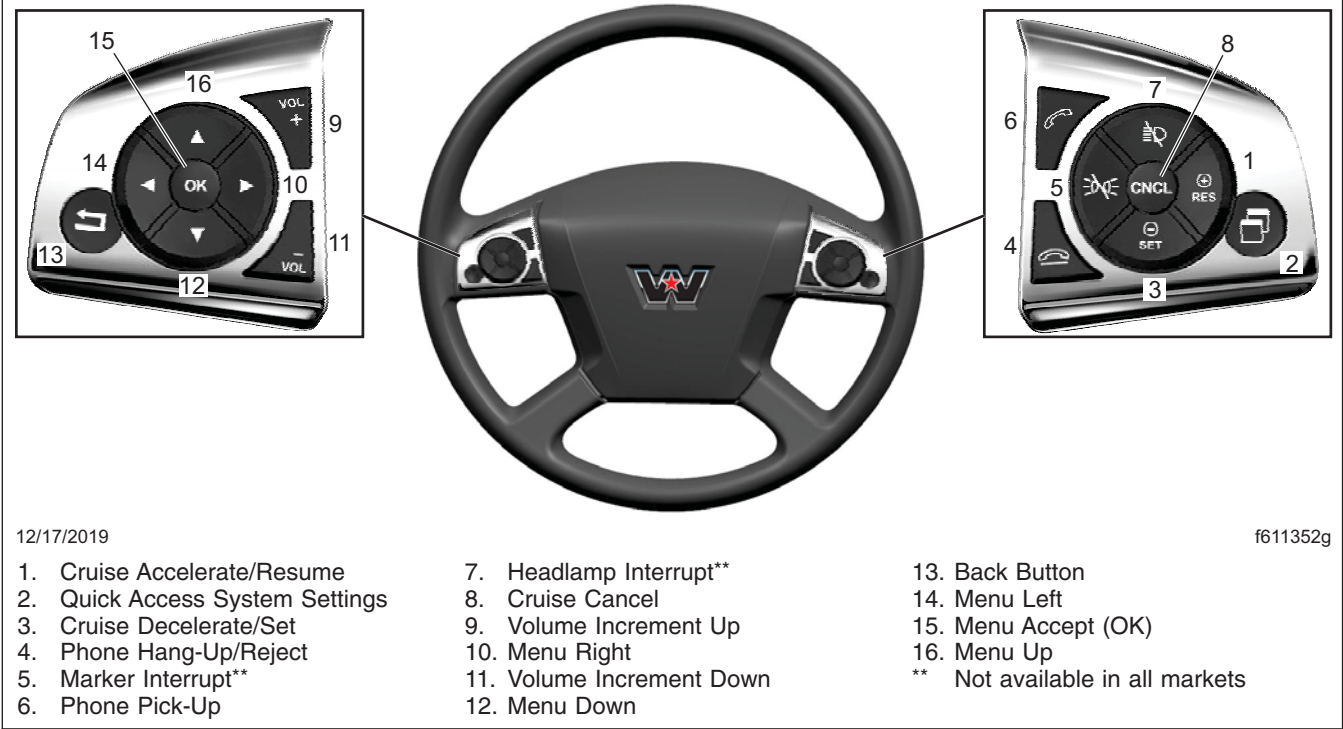

Fig. 4.7, Steering-Wheel-Mounted Switches
switch pod of the steering wheel, See item 5, Fig. 4.7.